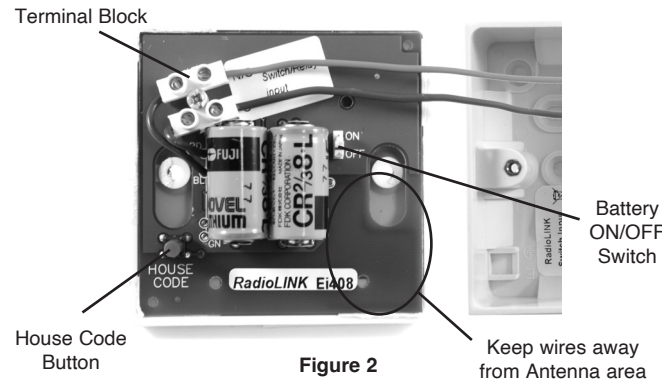

Figure 2
3. Switch on the built-in battery by sliding the yellow battery switch to the "on" position (see Figure 2).
4. Press and hold the House Code button (shown in Figure 2) until the red light on the front plate of the Ei408 illuminates solidly. As soon as the light illuminates, release the House Code button. The red light should start to flash slowly (this indicates that the Ei408 is sending out its own unique House Code signal).
If your Ei408 fails to work after you have read this leaflet, contact Customer Assistance at the nearest address given at the end of this leaflet. If it needs to be returned for repair or replacement put it in a padded box with the battery disconnected. Slide switch to "off" position (see Figure 2). Send it to "Customer Assistance and Information" at the nearest address given on the Ei408 or in this leaflet. State the nature of the fault, where the unit was purchased and the date of purchase.